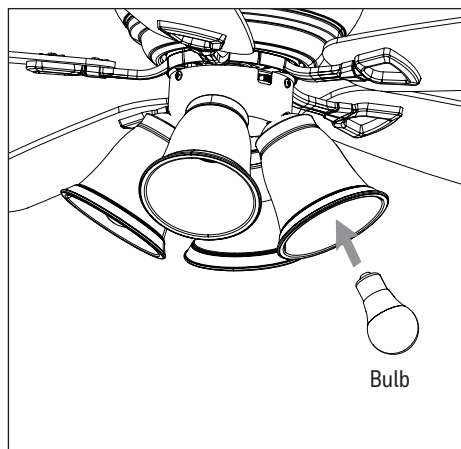

Figure 2.14
14. Install the four E26-base LED bulbs (Figure 2.14).